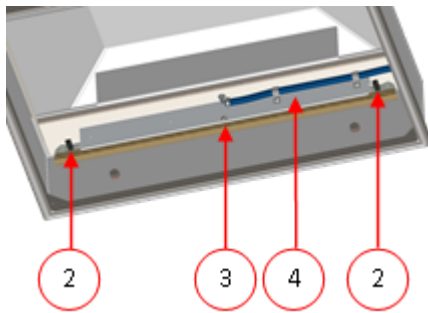

Figure 14: Removing the Sealing Bar (Metal Lid)
Lift the sealing bar from the cylinders. See *Figure 14: Removing the Sealing Bar (Metal Lid)* on page 61. Remove the sealing bar from the holders (4) by disconnecting the two electrical connectors (2) and removing the M6 screw (3).